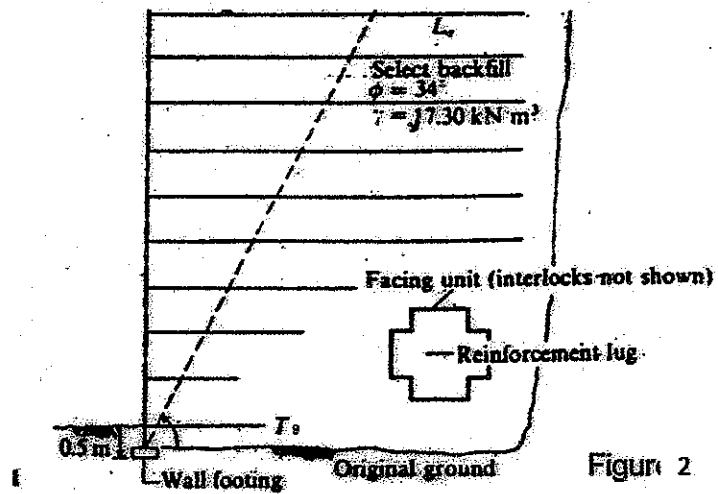

Figure 2
- (c) Analyze the wall of Fig. 2 for using strip reinforcement. The strips will be spaced at $s = 1 \text{ m}$ and $h = 1 \text{ m}$ to centre on the concrete wall facing units. Interlocking reinforced concrete facing units will be used as indicated. A wall footing will be poured to provide alignment and to spread the facing unit load somewhat since their weight is more than the unit weight of the soil. A 150 mm thick reinforced cap will be placed on top of the wall to maintain top alignment and appearance. Assume height of the wall to be 9 m. Analyze a typical interior vertical section and select tension strips based on $f_a = 140 \text{ MPa}$ (strip metal), $\phi = 34^\circ$, $\gamma = 17.30 \text{ kN/m}^3$, and $\delta = 24^\circ$. Also check against sliding.